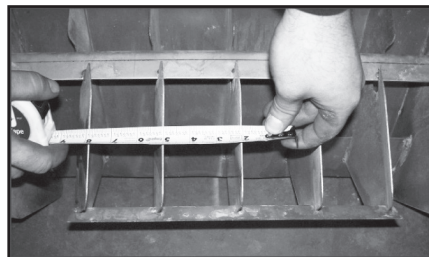

Figure 13
2. Figure 13 - Measure distance between Lower Divider fins to make sure they are all 3" (8cm) apart. Adjust top of fin as necessary.